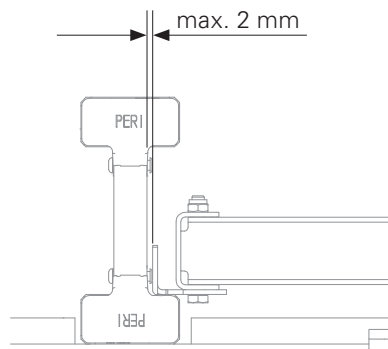

Fig. B1.11
- 2x Table Head Upper Part VD (2) are required per Table Head Middle Part VD (3).
- The spacing between the girder web and the side part is max. 2 mm. (Fig. B1.11)